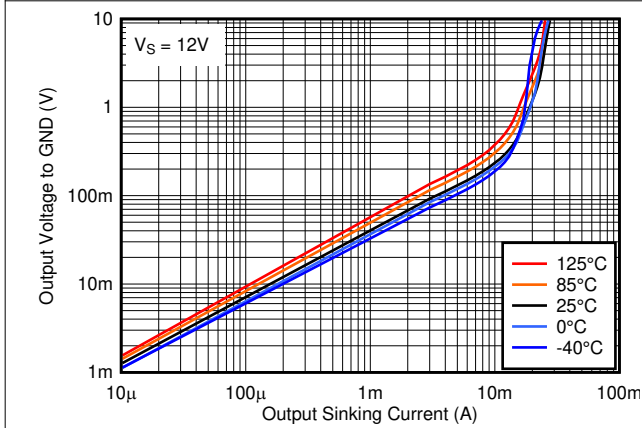

图 2-21. Output Low Voltage vs. Output Sinking Current at 12V
Output current is determined by the load/pull-up resistance and logic/pull-up voltage. The output current produces a output low voltage (V_{OL}) from the comparator. In which V_{OL} is proportional to the output current. Use 图 2-21 to determine V_{OL} based on the output current.
- R_{CE} can be determine by taking the slope of 图 2-21 in it's linear region at the desired temperature, or by dividing the V_{OL} by I_{out}